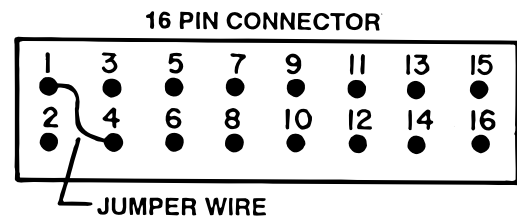

Figure 5-7. Back View Connector E
3. A jumper wire must be used to electrically close the relay contacts in order to make this test. The jumper wire will be used to connect pins 1 through 16 in the 16-pin connector E. See figure 5-7. These pins are low voltage (6.3V) and there is no danger of electrical shock.